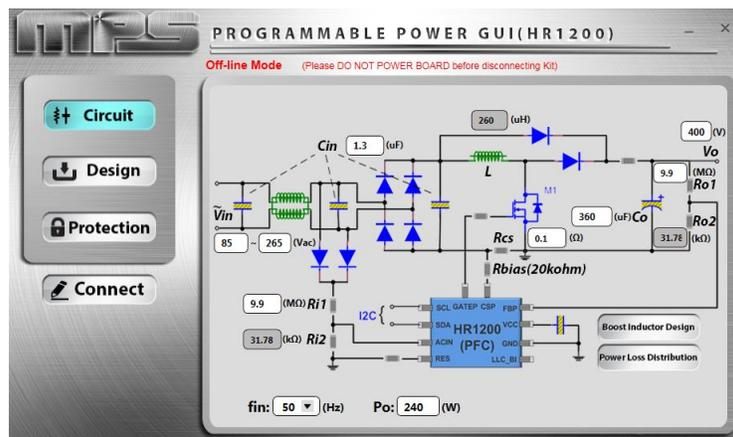

Figure 11: Main Interface in Offline Mode
- a) If VCC is detected lower than 8V, the IC enters offline mode (see Figure 11). Fixed VCC, VREG and pre-determined BURST are sent to the EVB.
This panel configures EVB inputs, outputs and several key design parameters (see Figure 11).